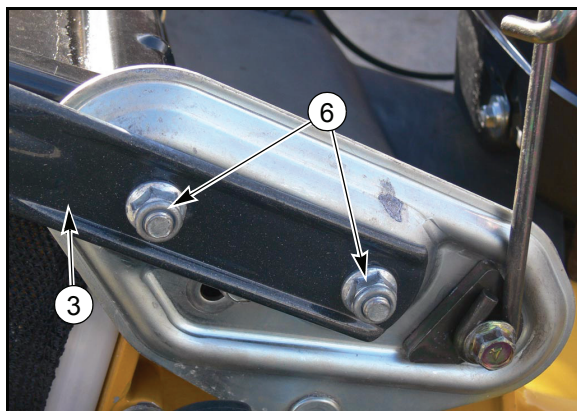

Fig. 4-2
1. Attach the lower handle ③ to the mower with flanged nuts. Fig. 4-2